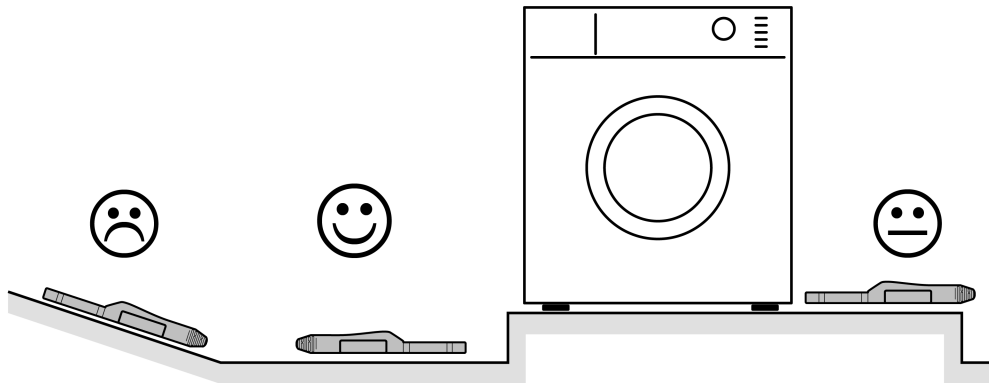

Figure 6: Appropriate and inappropriate locations for fitting
- i** Do not place the device on sloping surfaces, ridges or pedestals (figure 6).